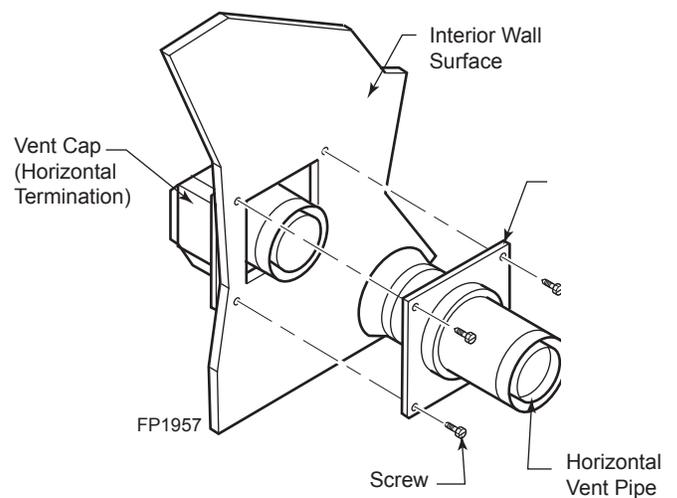

Figure 22 - Connecting Vent Cap with Horizontal Vent Pipe
5. Slide fire stop over the vent pipe before connecting horizontal run to vent cap. *Figure 22*
7. Slide fire stop against the interior wall surface and attach with screws. *Figure 22*